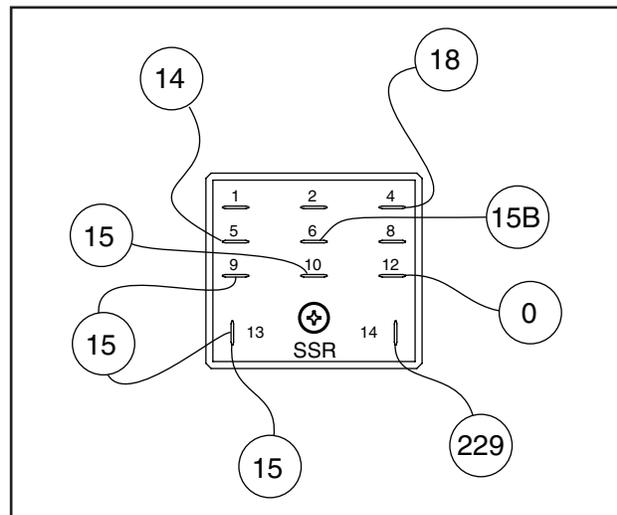

Figure 6-41. – Start Stop Relay (SSR)
7. Remove Wire 14 from the Start-Stop Relay (SSR). Refer to Figure 6-41 on Page 54. Connect the positive meter test lead to the terminal of the SSR that Wire 14 was just removed. Connect the negative meter test lead to frame ground. Place the Start-Run-Stop Switch (SW1) to the start position. 12 VDC should be measured. If 12 VDC is measured repair or replace Wire 14 between the SSR and Resistor 1 or between Resistor 1 and the FSS.